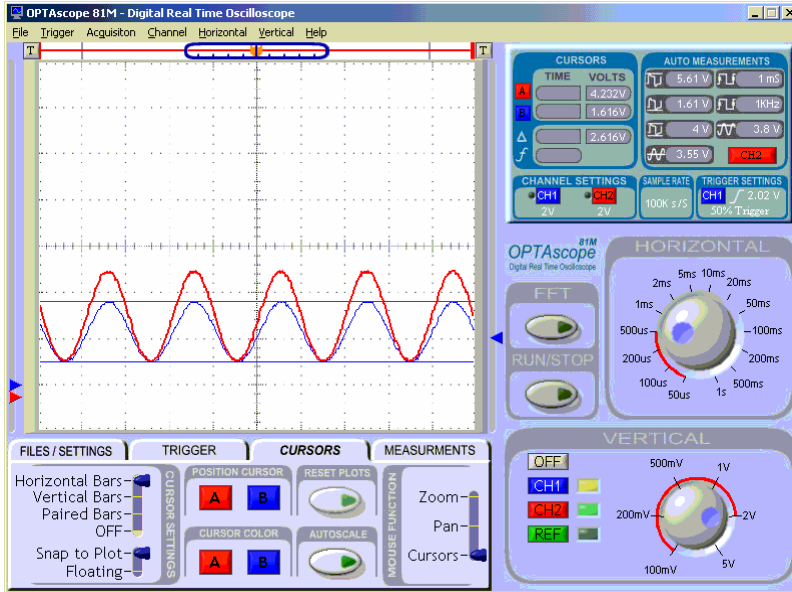

Figure 8-11: Input and output signals for a non-inverting amplifier with a gain of 2
Keep in mind that the amplifier gain for $R_i = 1 \text{ k}\Omega$ and $R_f = 2 \text{ k}\Omega$ should be about 1.5. The best way to measure this is with the Horizontal Bars cursors. Figure 8-11 shows the Horizontal Bars cursors measuring the amplitude of the input signal on OPTAscope CH1.
- √ Arrange the signals in the Plot Area so that their lowest peaks align as shown in Figure 8-11.